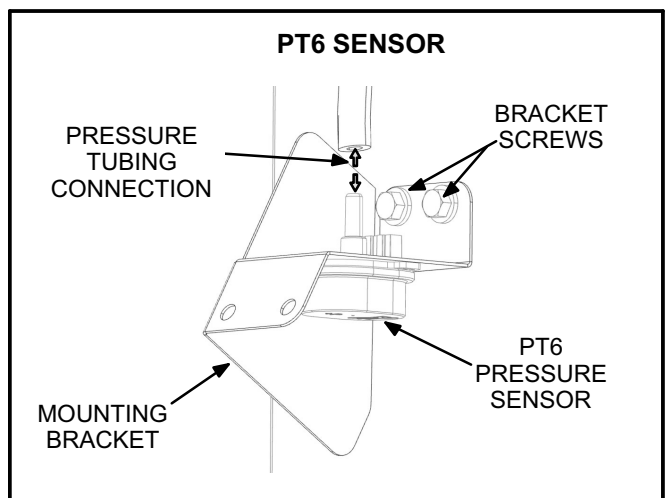

FIGURE 4
- 7- Disconnect the pressure tubing from PT6 pressure sensor. See figure 4. Remove two screws and remove sensor/bracket assembly (note the orientation). Remove PT6 from existing blower housing and save to be installed on the replacement housing.
- 5- Re-install the sensor/bracket (note the orientation). Re-connect the pressure tubing to PT6 pressure sensor and avoid tight bends in the tubing. See figure 4.